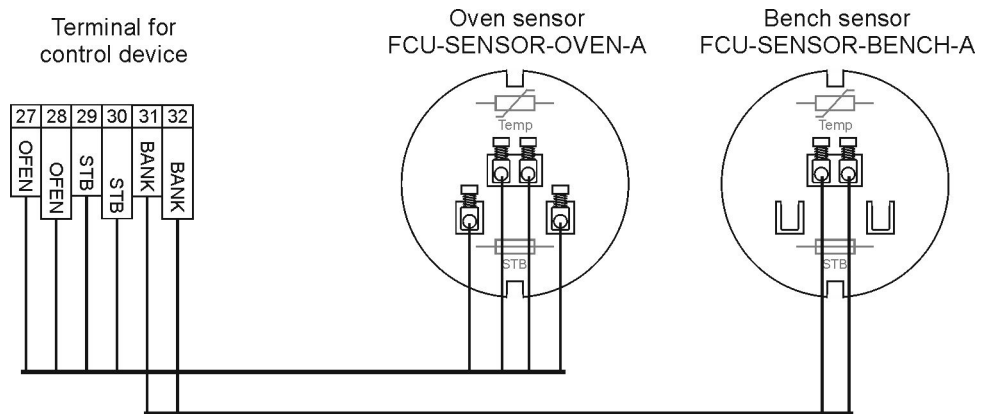
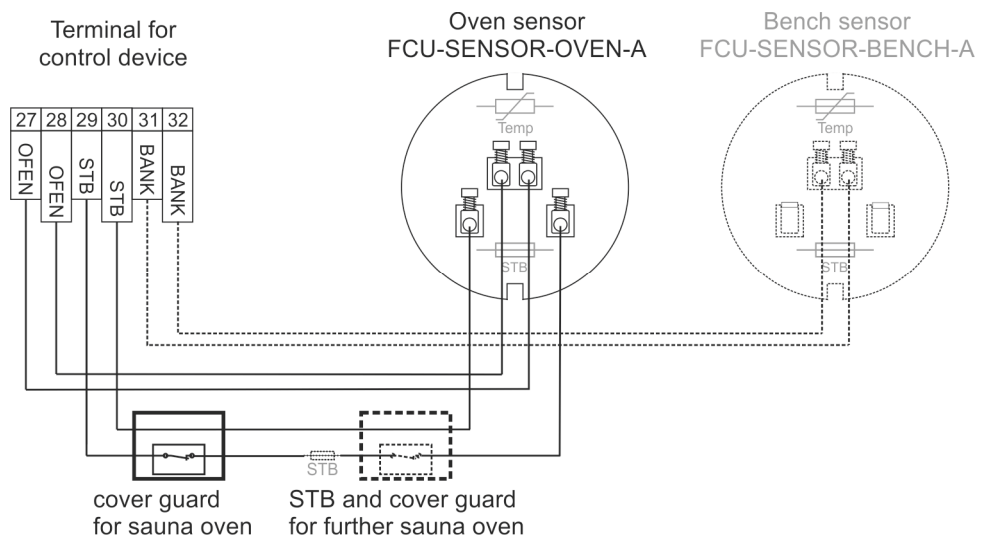

Figure 7: Connection of oven sensor for temperature and bench sensor for temperature
Figure 8: Connection of cover guard for sauna oven (detailed installation and connection Instructions, refer the documentation provided by the manufacturer)
4. Depending on the sensor used, connect the signal cable to the board as per the circuit diagram as given in figure 7 or figure 8.